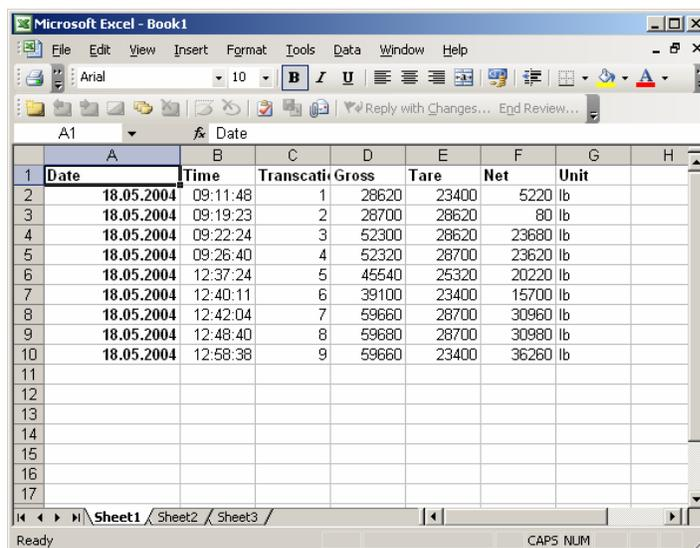

Figure B-22: Alibi & Transaction Table Data in Microsoft Excel
- The table data displays in Microsoft Excel (Figure B-22).